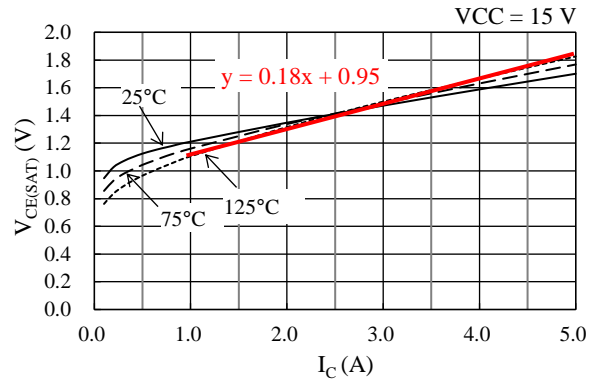

Figure 13-1. Linear Approximate Equation of $V_{CE(SAT)}$ vs. I_C Curve
Steady-state loss in an IGBT can be computed by using the $V_{CE(SAT)}$ vs. I_C curves, listed in Section 14.3.1. As expressed by the curves in Figure 13-1, linear approximations at a range the I_C is actually used are obtained by: $V_{CE(SAT)} = \alpha \times I_C + \beta$. The values gained by the above calculation are then applied as parameters in Equation (3), below. Hence, the equation to obtain the IGBT steady-state loss, P_{ON} , is: